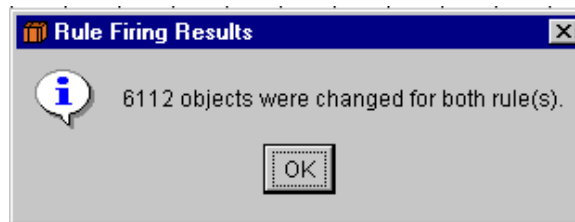

Figure 5.214 Rule Firing Results Window
3. On the Execute Rules menu, click the Apply All Rules command. After a moment, the Rule Firing Results window opens (Figure 5.214), which contains a message about how many objects were changed for both rule(s).